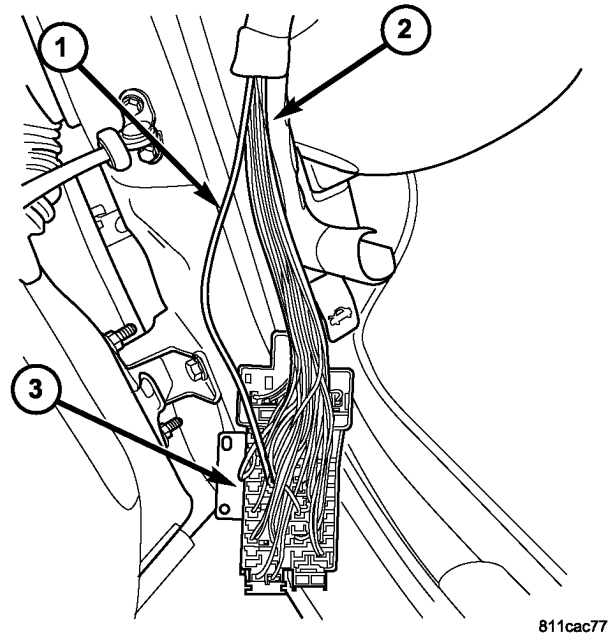

Fig. 2 VT/WT L4 CIRCUIT
6. Locate the L4 VT/WT wire in the wiring harness going toward the instrument panel. (Fig. 2).